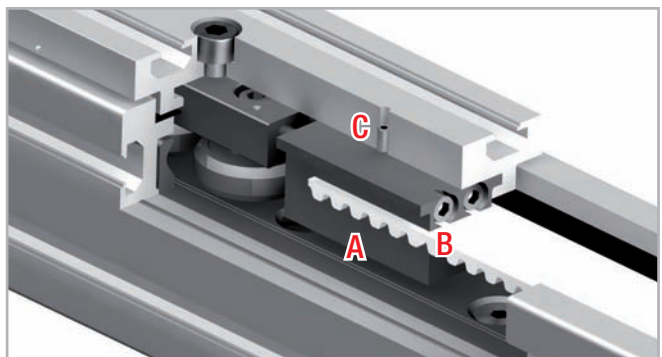

Fig. 73
1. Unscrew the safety screws C (on top of the slider plate) from the belt tensioning device A (see fig. 73).